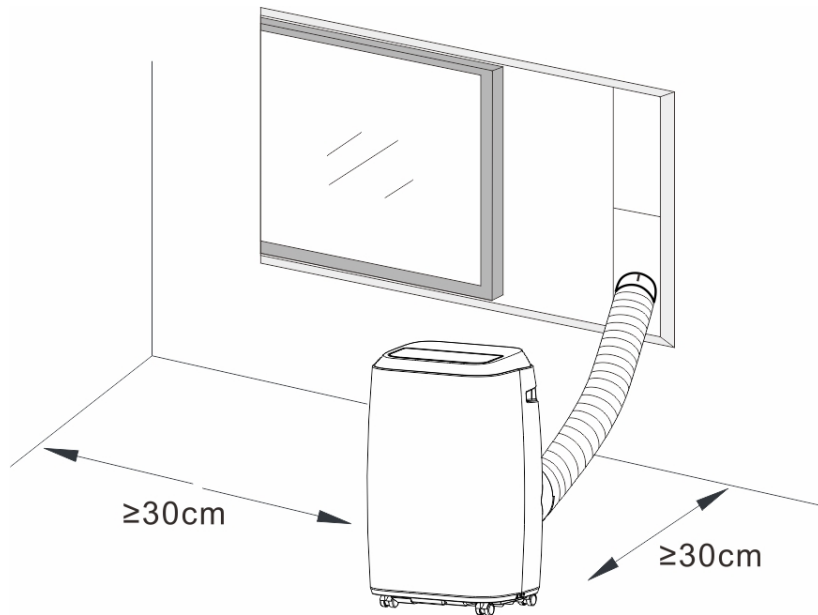

Fig.8
- A portable air-conditioner shall be installed in the flat and empty place all around. Don't block the air outlet, and the required distance around should be at least 30cm. (See Fig.8)